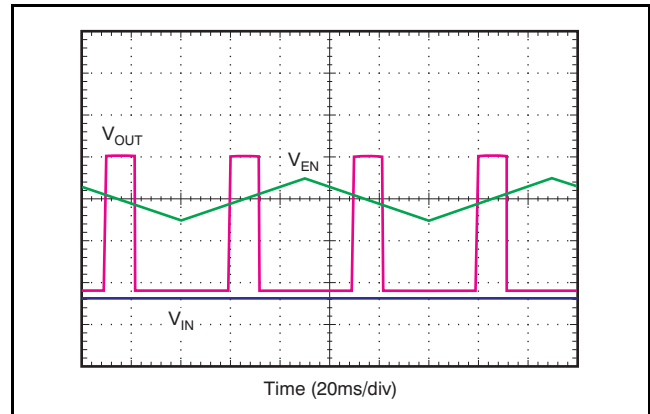

Figure 31. Enable Pin Positive/Negative Threshold
The TPS7A30xx provides a dual polarity enable pin (EN) that turns on the regulator when $|V_{\text{EN}}| > 2.0\text{V}$, whether the voltage is positive or negative, as shown in Figure 31.